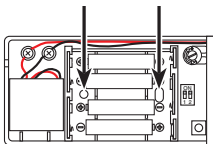

Figure 6
- **Screw Mounting:** To mount with screws, temporarily remove the batteries and place chime extender against mounting surface and mark the two screw holes. Drill two 3/16 in. pilot holes and insert wall anchors. Align holes in chime extender with wall anchors and insert two screws (see Figure 6). Tighten securely and replace batteries and cover.